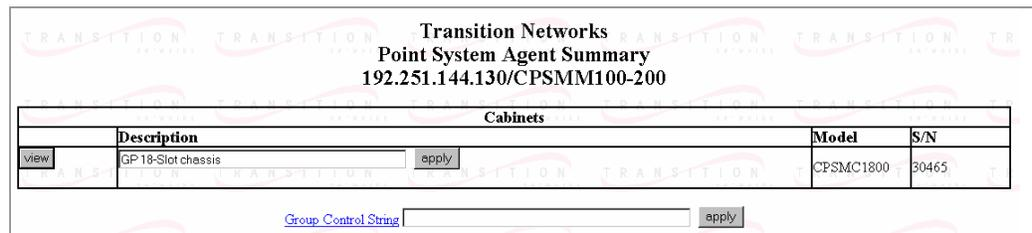

Figure 51: Chassis Agent (MMU) Main Menu
5.	Press the ENTER key to launch the chassis agent’s main menu, as shown in Figure 51.